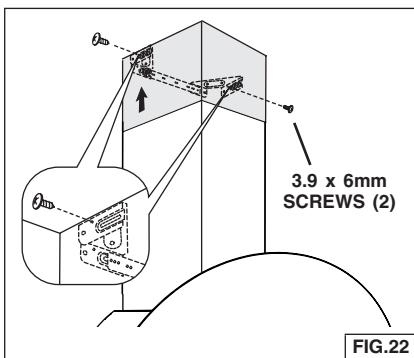

FIG.22
24. Install upper and lower decorative flue onto range hood. Tabs on lower flue engage slots on top of hood. Fig. 22.
25. Secure upper flue to flue mounting bracket with (2) 3.9 x 6 mm screws.